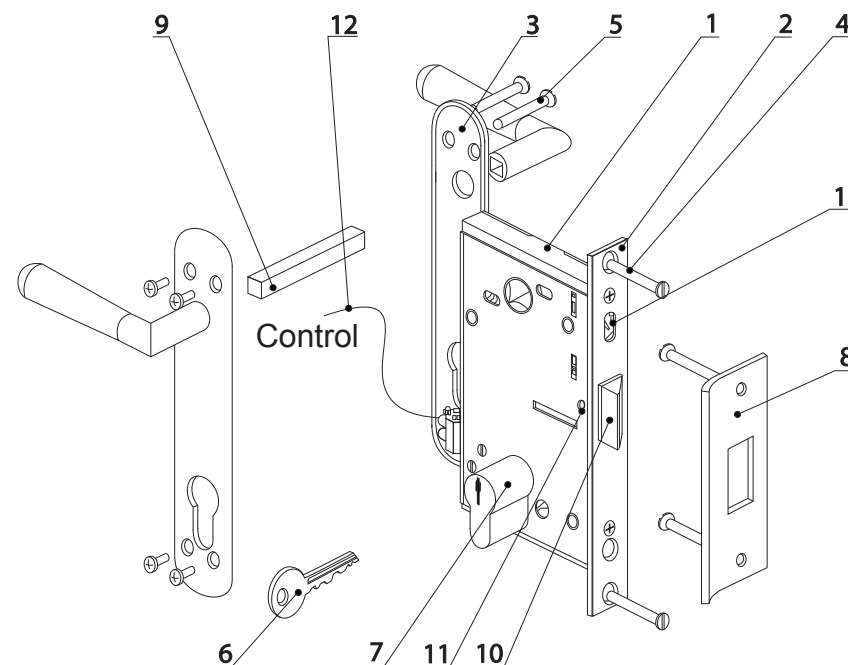

Fig. 1. LC-72.3 electromechanical lock design
Design and composition of the lock is shown in Fig. 1.
Install the lock in the following order (see Fig. 1):
- totally unscrew the screw (11) using the Allen key S=2.5 (Fig. 1);